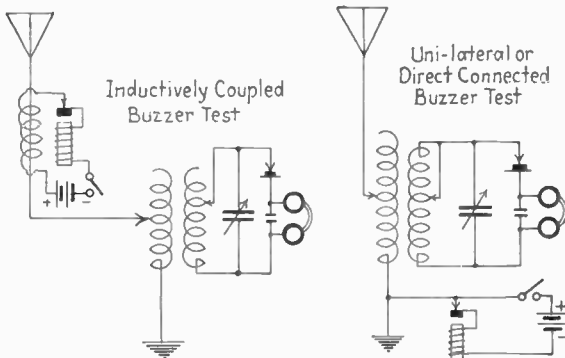

FIG. 42.—Test-buzzer connections to crystal receiver.
*Ans.* See Fig. 42. A test buzzer connected as in this figure, if connected inductively or directly, is of advantage in testing